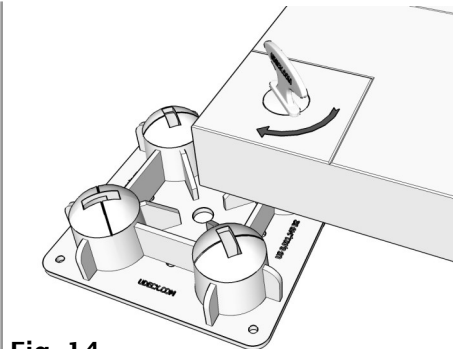

Fig. 14
Rotate each of the Cam Locks (C) clockwise 90 degrees using the Lock Tool (E). (Fig. 14 & 15)